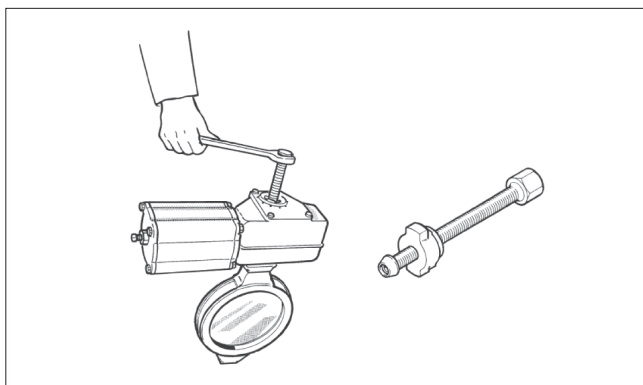

Fig. 15 Actuator removal, B1 series
- Detach the actuator using a suitable extractor. The correct tool can be ordered from the manufacturer (see Fig. 15).